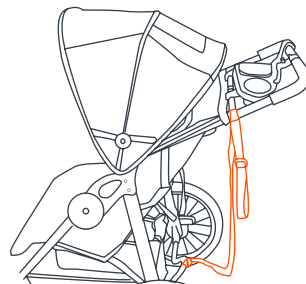

Fig. 16b
• The safety strap must remain connected to the rear lower frame cross member at all times. This location is intended to prevent the stroller being tipped backward in the event that you do fall to the ground. The safety strap includes an attachment for storage, on the left side of the stroller, when not in use (Fig. 16b).